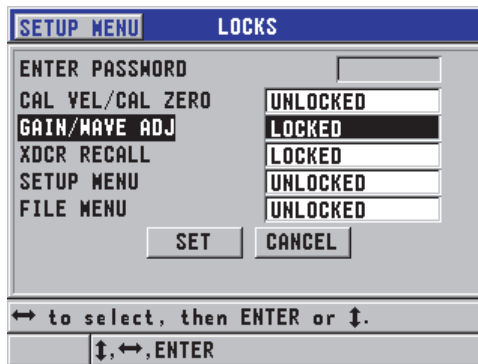

Figure 7-10 The LOCKS screen
2. In the **LOCKS** screen (see Figure 7-10 on page 148):